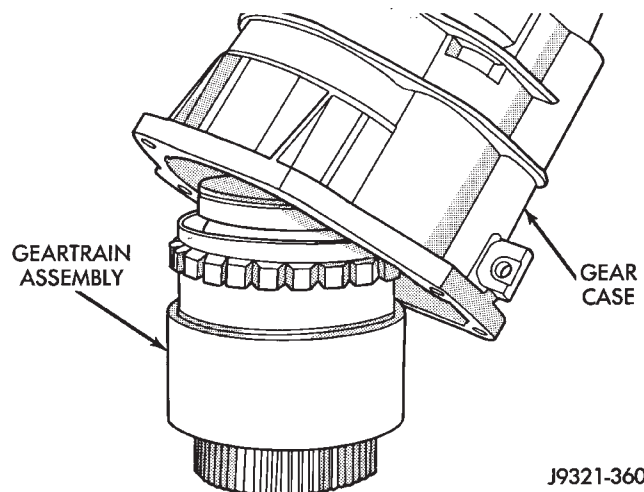

Fig. 60 Overdrive Gear Case Installation
(7) Support geartrain on Tool 6227-1 (Fig. 60). Be sure tool is securely seated in clutch hub.
(8) Install overdrive gear case on geartrain (Fig. 60).